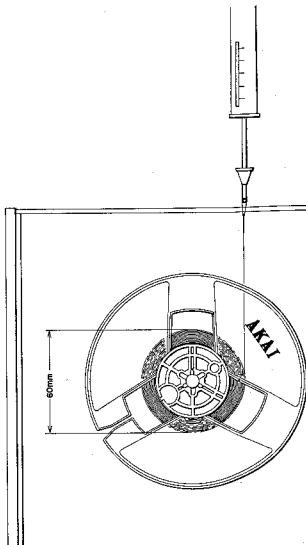

Fig. 17
- 1) As shown in Fig. 17, use a 60 mm diameter tape wound on a 5" reel and measure the brake tension with a tension gauge. Ideal brake tension is from 300 to 370 grams.